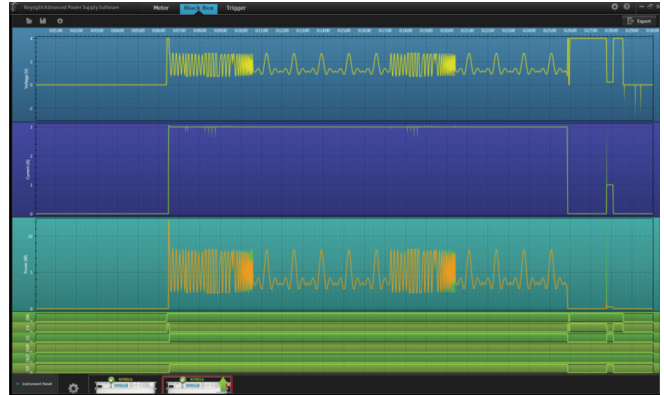

Figure 8. Black box recorder data displayed within the N7906A Power Assistant software
Much like a flight data recorder, the N7908A black box recorder (BBR) runs continually in the background, independent of what the power supply is doing. When the power supply is on, the BBR is recording power events and storing measurements in non-volatile memory. The BBR can be set for either a 24-hour record or a 10-day record period. In the 24-hour mode, measurements are made at a rate of 100 per second, and in the 10-day mode they are made at a rate of 10 per second. The BBR data can be accessed via the free APS power assistant software (see Figure 8 on page 9). The BBR option works on all APS N6900 and N7900 power supplies. It is a factory installed option available only at the time of purchase.
- Retrieve and view data from the optional APS power supply black box recorder (see Figure 8)